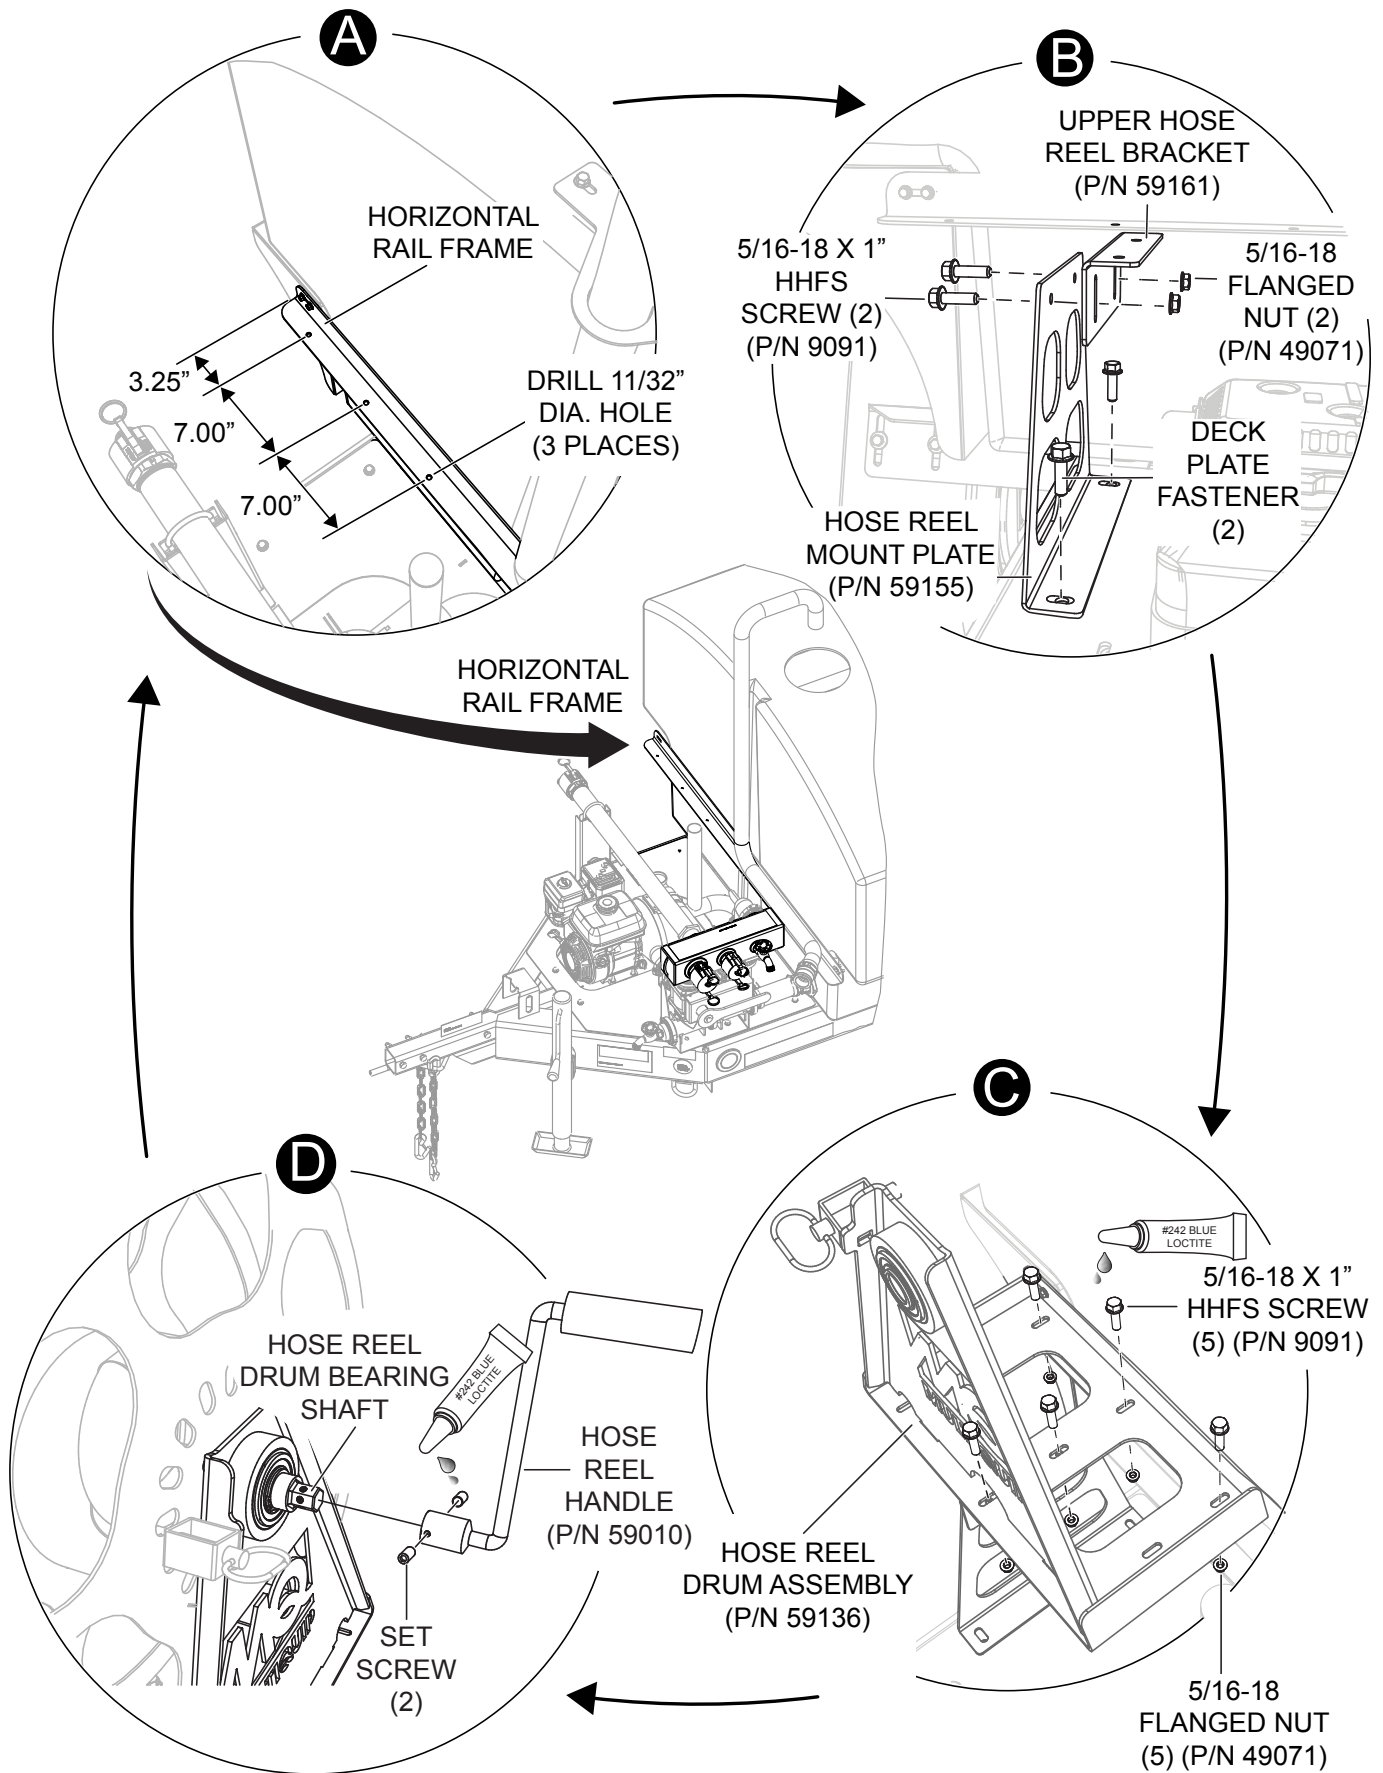

Figure 2. Hose Reel Assembly Installation
2. Using a hand drill with an 1 1/32" drill bit, drill three holes in the horizontal rail frame as shown in **Figure 2, A**.
3. Using an 1/2" ratchet and socket, remove the deck plate fasteners (2) below the horizontal rail frame as shown in **Figure 2, B**.
4. Using an 1/2" ratchet and socket, loosely secure the hose reel mounting plate (P/N 59155) using the previously removed deck plate fasteners as shown in **Figure 2, B**.
5. Using an 1/2" ratchet and socket, secure the hose reel upper bracket (P/N 51961) to the hose reel mounting plate (P/N 59155) using the two provided 5/16-18 X 1" HHFS screws (P/N 9091) and 5/16-18 flanged nuts (P/N 49071) as shown in **Figure 2, B**.
6. Align the hose reel drum assembly (P/N 59136) rear holes (3) with the holes (3) drilled into the horizontal rail frame. The center of the hose reel drum assembly will align with the hose reel upper bracket installed in Step 4. See **Figure 2, C**.
7. Using an 1/2" ratchet and socket, secure the hose reel drum assembly to the horizontal rail frame and the hose reel bracket using five provided 5/16-18 X 1" HHFS screws (P/N 9091) and 5/16-18 flanged nuts (P/N 49071). See **Figure 2, C**.
8. Apply 242 Blue Loctite® to the 5/16-18 X 1" HHFS screws (5) and 5/16-18 flanged nuts (5) and torque to 13 ft-lbs. (17.6 N•m). Check that all fasteners and hose reel mounts and brackets are secured. See **Figure 2, C**.
9. Place the hose reel handle (P/N 59010) onto the hose reel drum bearing shaft as shown in See **Figure 2, D**.
10. Align the hose reel drum bearing shaft and hose reel handle set-points, and apply 242 Blue Loctite® to the two provided set screws. Tighten the two set screws to secure the hose reel handle to the hose reel drum bearing shaft. See **Figure 2, D**.